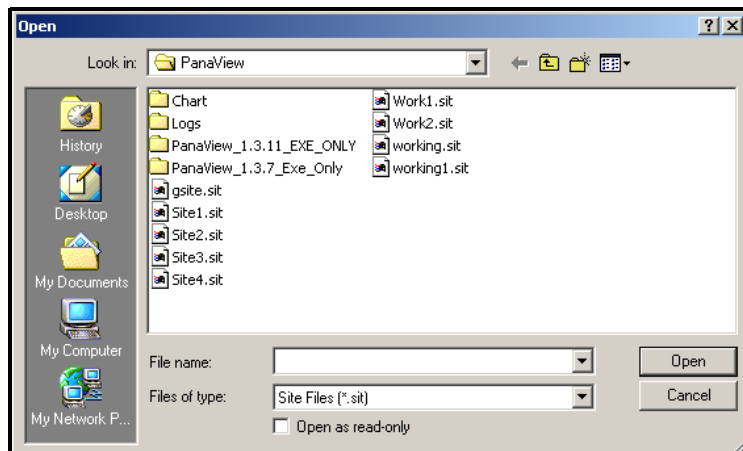

Figure 52: Site File Selection
- Then click on the [Save Site to Meter] button. A screen opens similar to Figure 52.
3. The *Site File Selection* window (Figure 52 on page 124) opens. Highlight a site file with the desired settings, and click [Open]. The site file becomes the *Working* site in the meter with the desired settings.
2. Click [Save Site to PC]. A window opens similar to Figure 52 on page 124.
3. The *Site File Selection* window (shown in Figure 52 on page 124) opens. Enter the desired site name (now with a .prt suffix) and click on [Save]. PanaView displays a text version of the site, as shown in Figure 54.